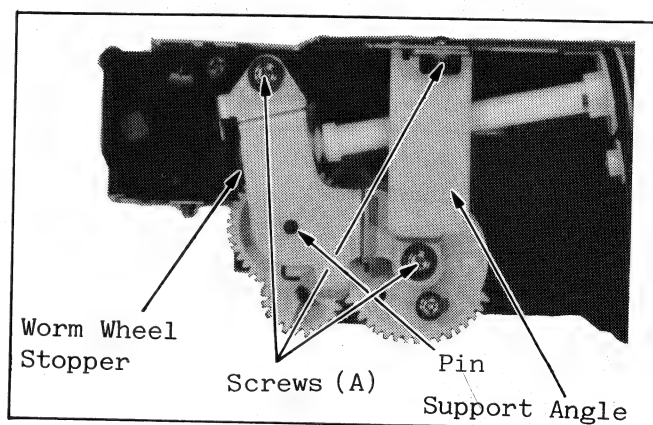

Fig. M36-5 Adjustment of Cassette Up Gears-(5)
4. Install worm wheel stopper unit and support angle with 3 screws (A) as shown in Fig. M36-5.